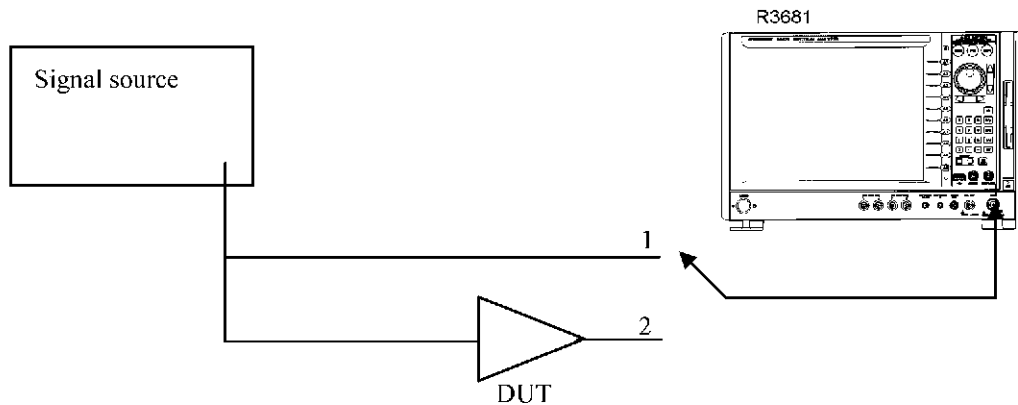

Figure 4-16 Connection Diagram for the Modulation Analysis that Uses the Equalizer
1. Set the signal path to 1 that is shown in Figure 4-16 and perform the measurement according to the procedures that are described in Section 4.1 or Section 4.2.
9. Switch the signal path shown in Figure 4-16 to 2 and press the **SINGLE** button on the front panel or the **A/D Capture** button on the soft menu bar. In the Multi Frame mode, the measurement results are displayed.